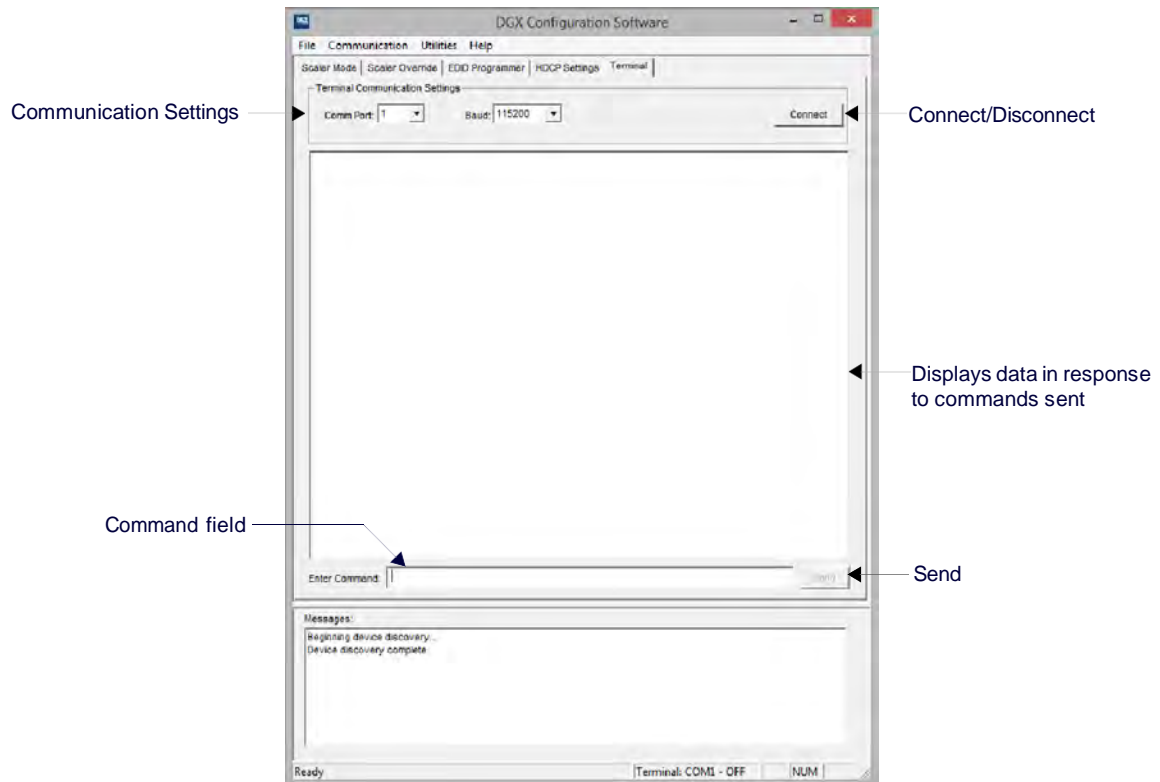

FIG. 184 Terminal view
1. In the DGX Configuration Software interface, select the Terminal tab (FIG. 184):